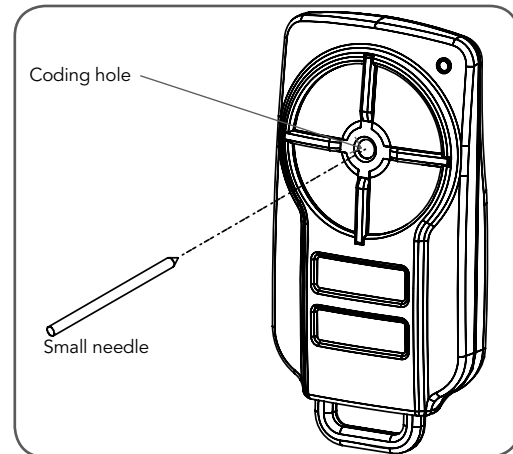

fig 30
- Using a small needle, press and hold firmly for two seconds through the Coding Hole (**Fig.30**).